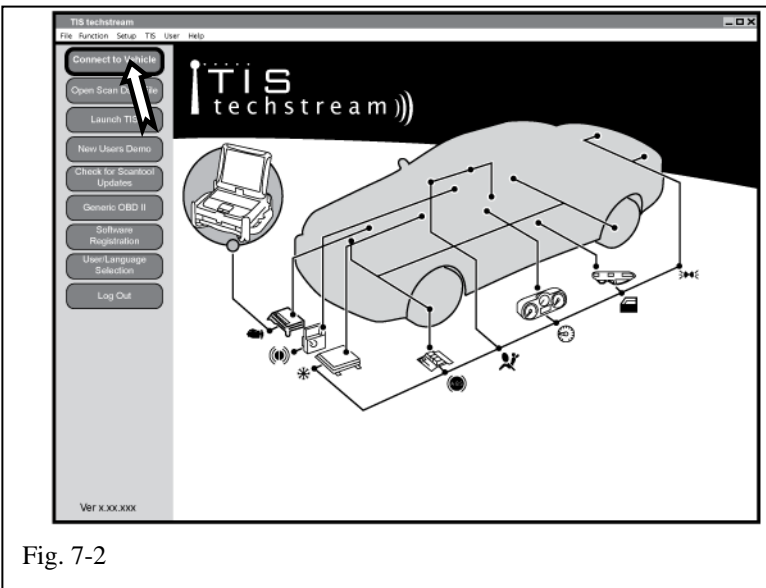

Fig. 7-2
- (d) Click “Connect to Vehicle.” (Fig. 7-2)